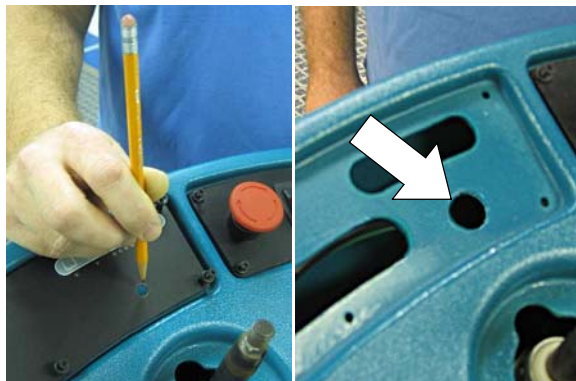

Fig. 5
4. Using the new instrument panel [p/n 1050592] as a template, cut a 14 mm hole into the steering column housing as shown (Figure 5).